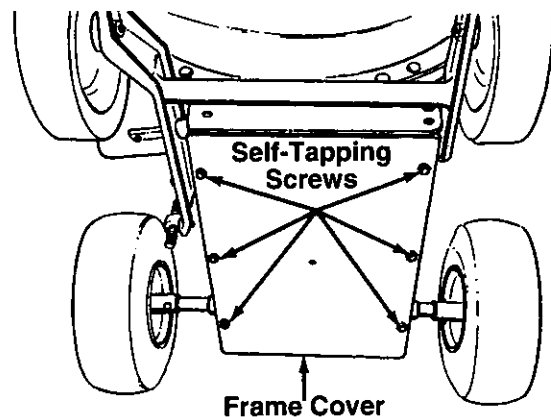

Figure 18
3. Remove the frame cover by removing eight self-tapping screws from underneath the chipper-vacuum. See Figure 18.
4. Remove the frame cover by removing eight self-tapping screws from underneath the chipper-vacuum. Refer to Figure 18.